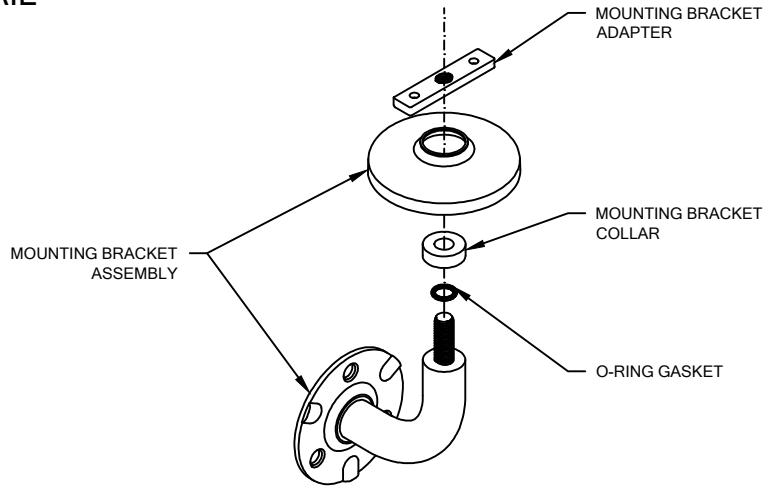

FIGURE 1.
6. ASSEMBLE MOUNTING BRACKET AS SHOWN IN FIGURE 1 ABOVE. USING THE ASSEMBLED BRACKET AS A TEMPLATE, DRILL 1/8" PILOT HOLES INTO THE RETAINER FOR MOUNTING BRACKET ATTACHMENT.
7. FASTEN THE ALUMINUM RETAINER TO THE WALL BRACKETS IN SUCCESSION BY INSERTING TWO (2) #6 X 5/8" S/S PHILLIPS FLAT HEAD SHEET METAL SCREWS THROUGH THE UNDERSIDE OF BRACKET INTO THE RETAINER. **CAUTION:** OVER-TORQUEING MAY CAUSE THE FASTENERS TO STRIP.